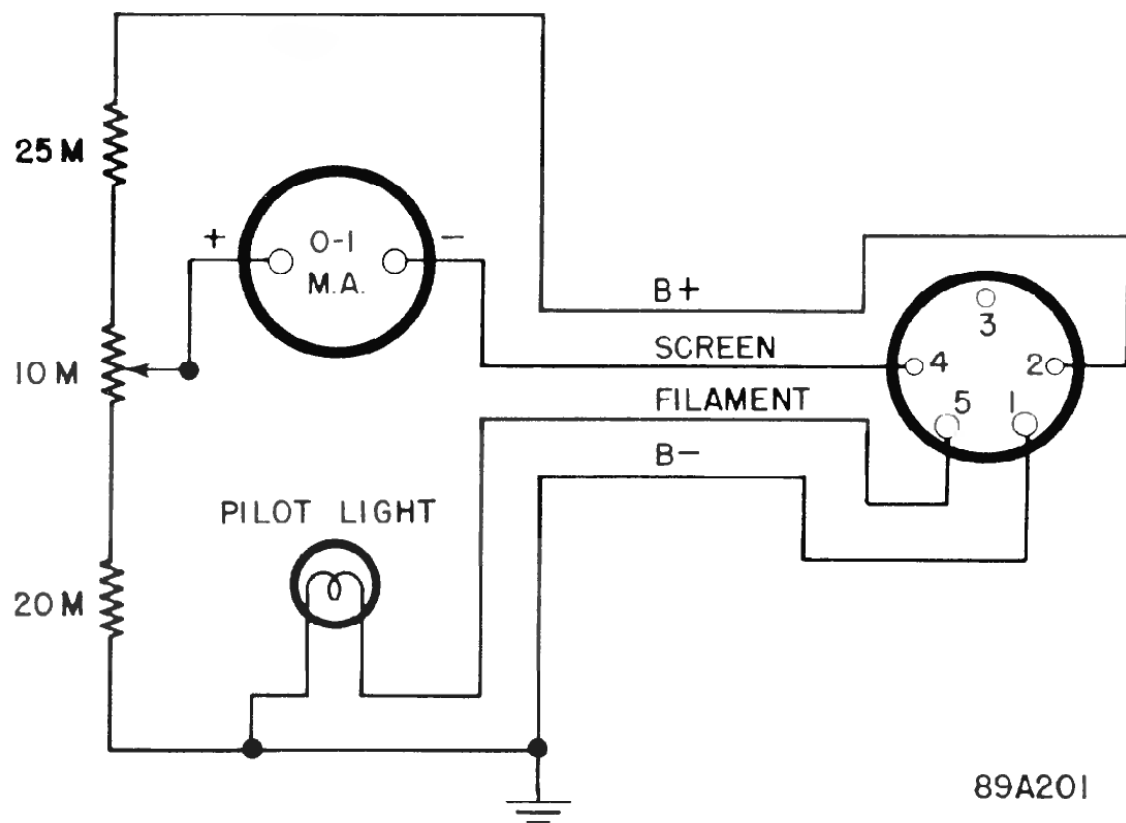

Figure 4-2. Tuning meter SM-40 and schematic wiring diagram.
i. **Tuning Meter.** - The tuning meter "S METER" is not supplied with the receiver, but can be purchased on request from the company. Provision has been made on the rear apron of the receiver for the external connection of the "S" meter. A five prong plug is wired to the meter as indicated in figure 4-2 and should be plugged into socket S0-2. When metering reception, the meter measures a voltage drop across resistor R-27 e.i. a change in screen current of first and second i-f amplifier tubes V-4 and V-3.